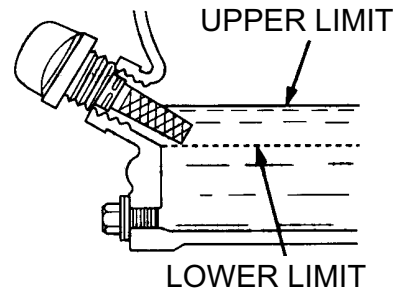

Figure 6. Engine Oil Dipstick (Oil Level)
4. If the oil level is low (See Figure 6), fill to the edge of the oil filler hole with the recommended oil type (Table 5). Maximum oil capacity is 0.59 quarts (0.56 liters).